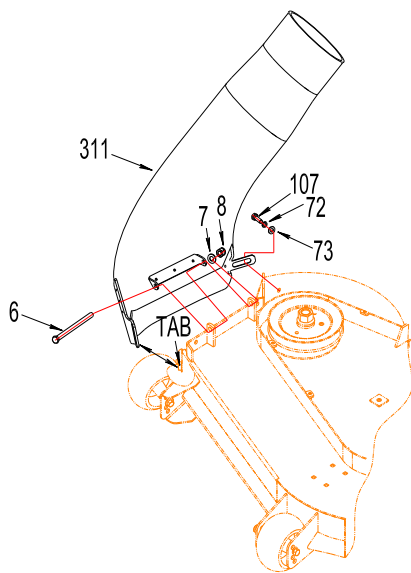

FIG 4
d) Install the deck discharge tube. Place slot on outside edge of Part No. 311 (deck discharge tube) over welded tab on outside edge of mower deck. Line up top bracket holes of deck discharge tube with holes in tabs welded to top of deck discharge. Insert bolt, add washer and nut and tighten securely. Insert M8x16 bolt into inside side bracket of tube assembly and hole provided in deck, add washer and nut and tighten securely. (FIG 4)